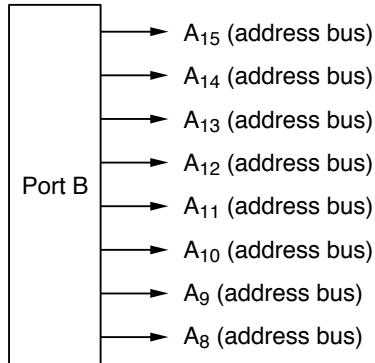

Figure 9-70 Pin Functions in Modes 1, 3, 5, and 6
(1) Pin Functions in Modes 1, 3, 5, and 6: Port B is used for address output (A₁₅ to A₈). The PBDDR settings are ignored. Figure 9-70 shows the pin functions in modes 1, 3, 5, and 6.